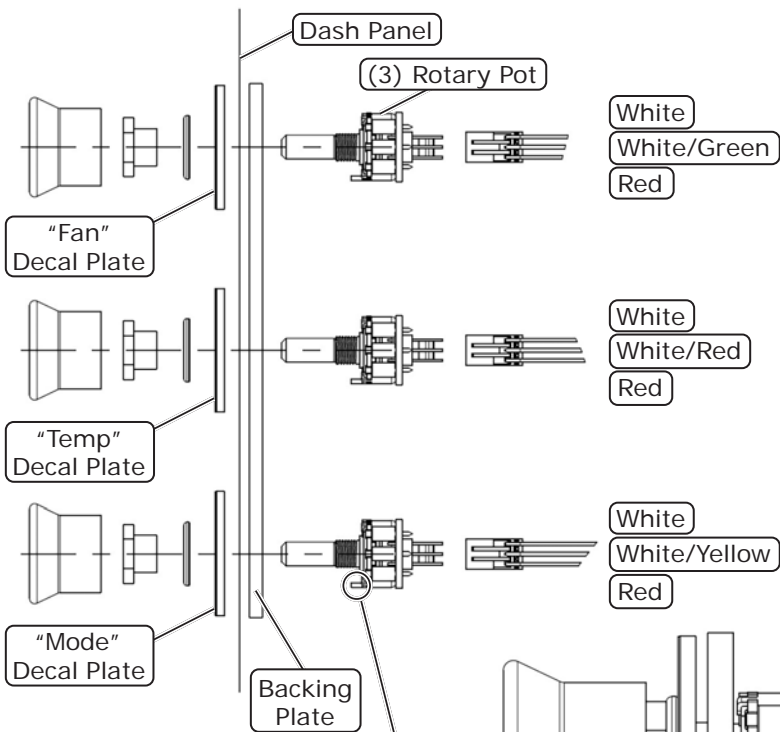

Figure 1
1. Before starting with the installation, remove the (3) rubber knobs by pulling, then the (3) potentiometer nuts, (3) washers, and (3) decal plates from the control panel assembly (See Figure 1, below).
3. Place the new control panel back plate onto the back of the dash at the OEM location (note orientation of backing plate small holes in down position). Insert the potentiometers from the back side in their correct location in accordance with the wire color as shown in Figure 1, below. **NOTE: Make sure the location tabs enter into the small holes in the backing plate.**